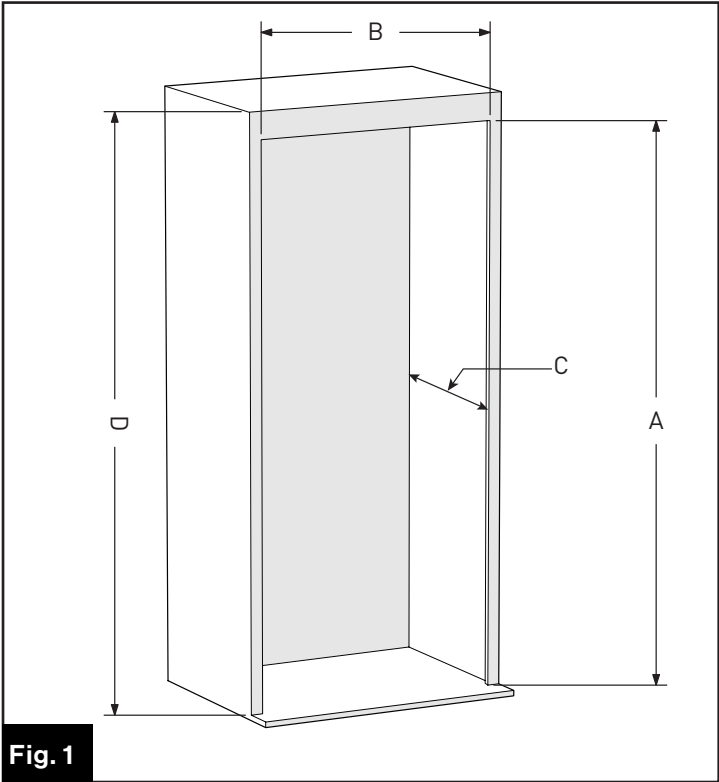

Fig. 1
2. Mark and cut out an open area on the wall according to the dimensions outlined in Fig. 1.